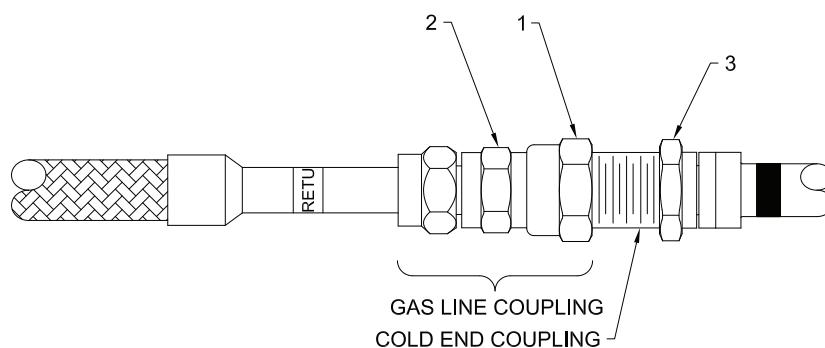

Figure 5-4: Connect Gas Line to Cryocooler
5. Connect the SUPPLY and RETURN gas lines to the corresponding couplings. When tightening the connection, first place a 19 mm (3/4") wrench on the freely-rotating part of the female coupling half (position "1" in Figure 5-4) on the gas line and a 16 mm (5/8") wrench on the base of the female coupling half (position "2") on the gas line. Hold the 16 mm (5/8") wrench and turn the 19 mm (3/4") wrench clockwise. At the very end, remove the 16 mm (5/8") wrench and place another 19 mm (3/4") wrench on the base of the male coupling half (position "3") and tighten the connection between the male half and female half until the torque specification is met. **Torque all couplings to 8 to 10 N•m (6 to 8 lb•ft). (Use 14 to 16 N•m or 10 to 12 lb•ft if both the male half and female half are Aeroquip/Parker 5400 series couplings).** Fully tighten each coupling before proceeding to the next one.